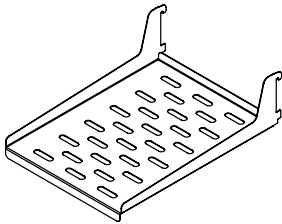

Figure 36
- (1) half width metal cantilever shelf (See Figure 36).